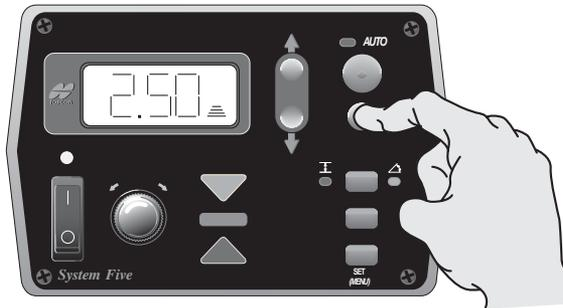

Figure 7-15. Survey to On-Grade and Return to Automatic Control
- Without stopping, continue paving until the tracker is back on the lip of the curb. Survey the tracker on-grade (Figure 7-15 on page 7-9) and put back into automatic control.